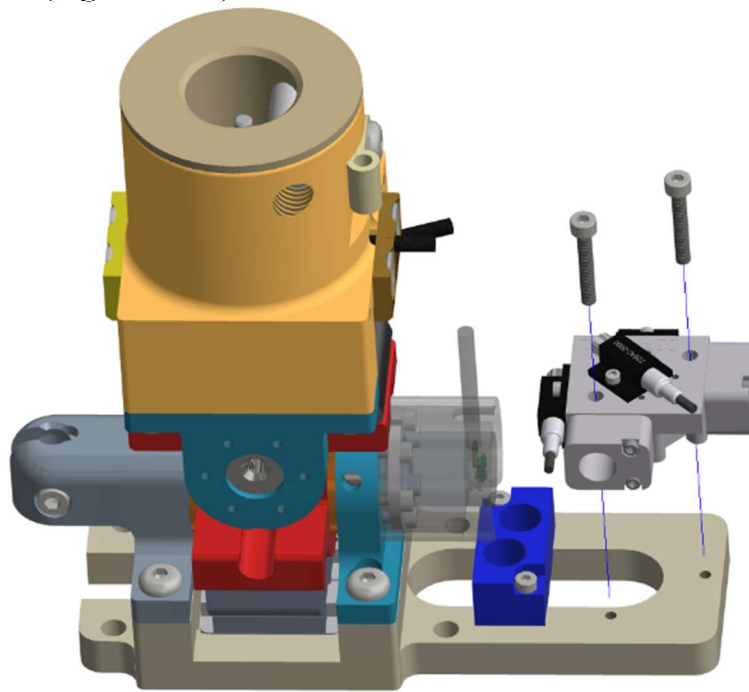

Figure 10-50. Attach the foot 6-Axis Accel/ARS Mount
10.3.15 Attach the foot 6-Axis Accel/ARS Mount (474-5728-1,2) using two M2.5 X 0.45 X 16 LG. SHCS (Figure 10-50).